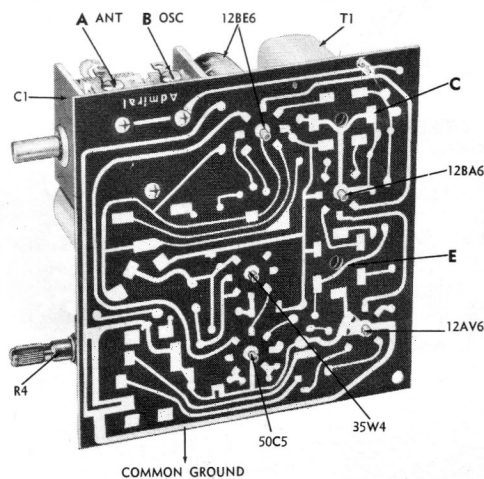

Figure 1. Bottom View of Chassis.
This receiver employs the latest radio circuitry and a "printed" circuit wiring technique. The "printed" circuit wiring used in this receiver replaces the hookup wire used in earlier receivers; see figure 1. The "printed" circuit wiring is permanently bonded to the underside of the plastic chassis base. This results in uniformity of chassis wiring, fewer wiring troubles and simplified circuit tracing and trouble shooting. All circuit components are of standard size and design and are mounted on the top side of the chassis; see figure 2. Audio circuit components are contained in a couplate.
- All readings made between tube socket terminals and common ground; see figure 1.